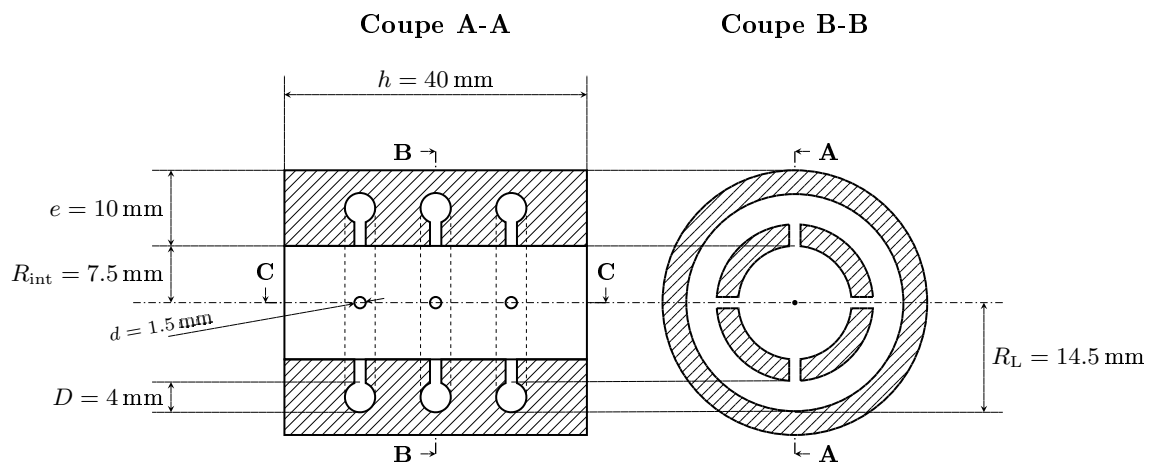

Figure 2: Drawing of the part to be produced, with dimensions of utilization
- a) The part in Fig. 2 represents a bearing with an internal lubrication system. It contains a particular feature which makes additive process well adapted for its fabrication. Describe this feature and justify your answer below:
- g) In case you select the Digital Metal™ is that true that you have to produce the fabrication file (.stl file) by respecting exactly the dimensions of utilization given in Fig. 2? If it is not the case, justify your answer and explain how the dimensions have to be modified.